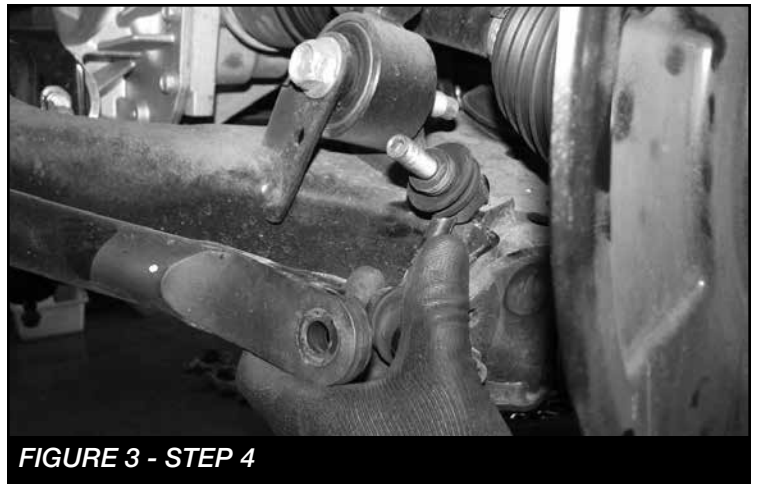

FIGURE 3 - STEP 4
4. Locate the sway bar end links and remove from the factory lower control arms and the sway bar. Discard the end links and hardware. **SEE FIGURE 3**